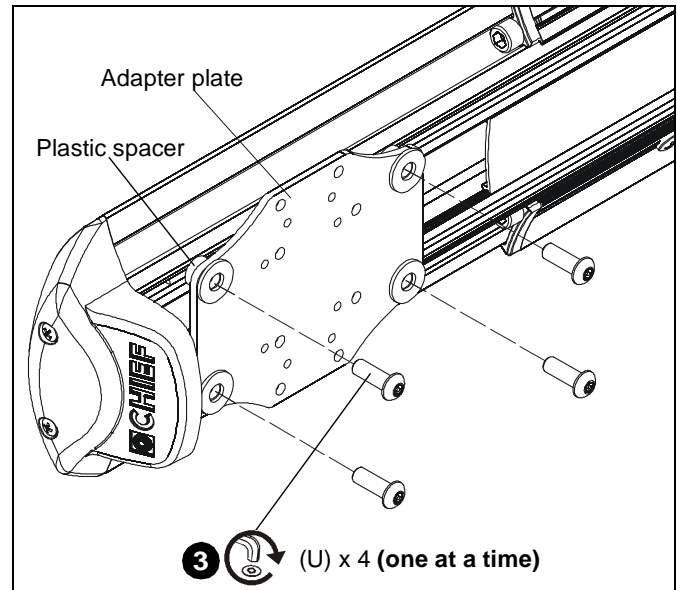

Figure 50
3. Install one 1/4-20 x 3/4" button head security screw (U) into hole (vacated by removed bolt in previous step) and into plastic spacer. (See Figure 50)